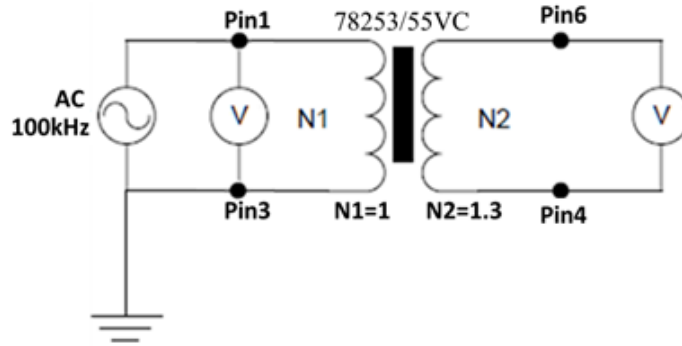

Figure 5-4 Circuit for voltage ratio on no load
1. For the circuit shown in Figure 5-4, determine the theoretical values of the secondary voltage and voltage ratio if the primary voltage is $0.5V_{RMS}$, $1V_{RMS}$, $2V_{RMS}$, and $3V_{RMS}$ and record the results in Table 5-1.
1. Construct the circuit shown in Figure 5-4. **Caution:** Do not make changes in the circuit without first making sure the function generator output is switched off.